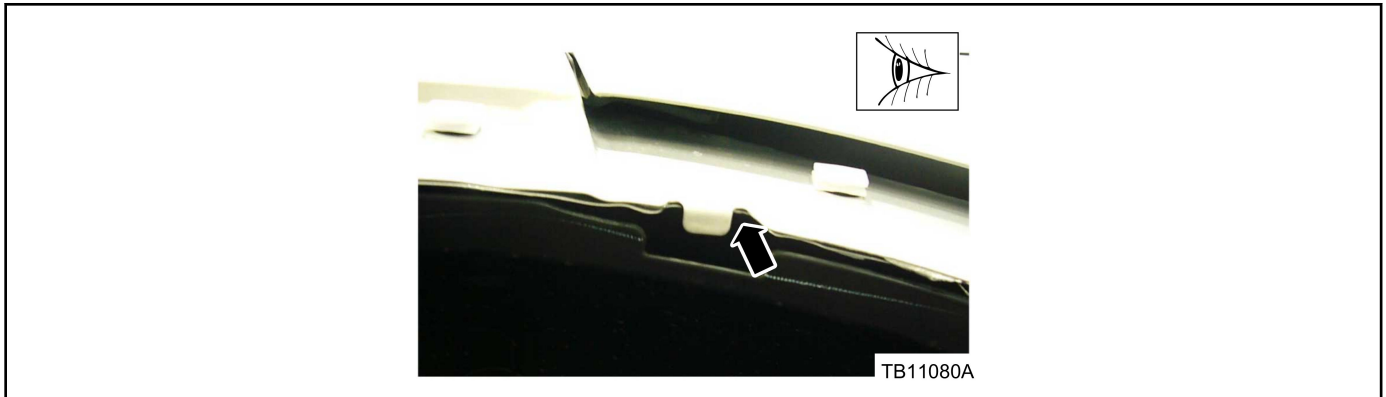

Figure 12 - Article 17-0044
- b. Inspect the upper edge of the wheel arch for gaps. Seal as necessary using Motorcraft® Seam Sealer or equivalent. (Figure 12)